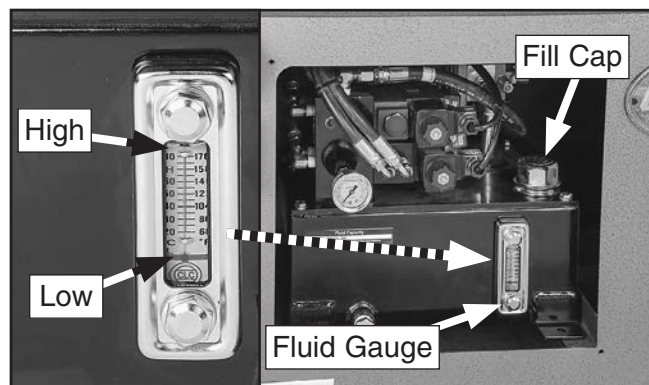

Figure 71. Hydraulic tank fluid gauge and fill cap location.
3. Check fluid level and temperature on fluid gauge mounted on front of hydraulic tank (see **Figure 71**). Fluid level indicator should be halfway between "L" (low) and "H" (high).